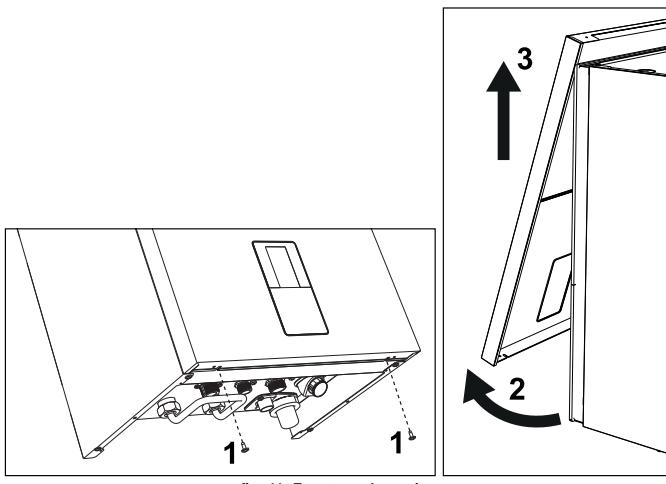

fig. 41- Front panel opening
1. Undo the screws “1” (see fig. 41).